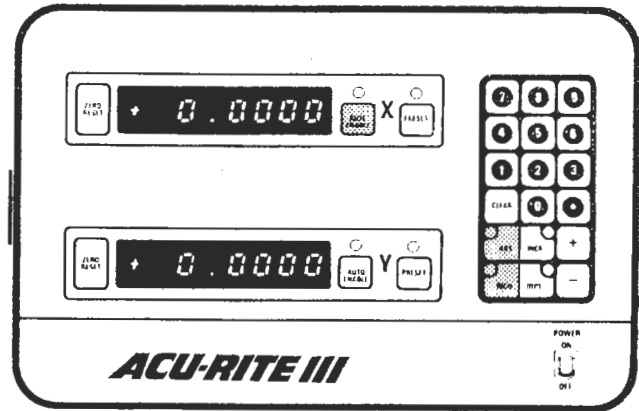

Figure 3-23 Console Status: Auto Enable
- a. Push the AUTO ENABLE key for the desired axis. The key will light (Figure 3-23).